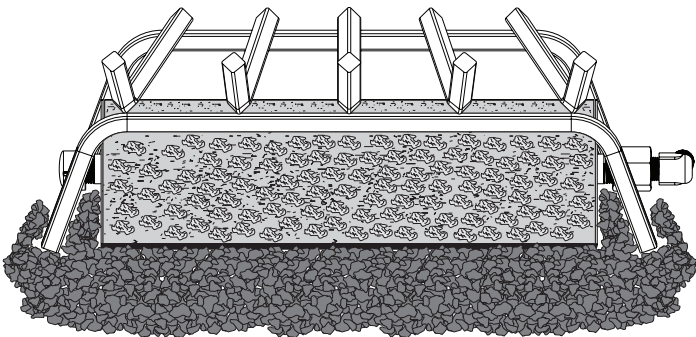

Figure 7
7. Place the Lava Rock (cinders) around the Grate/Burner Assembly. **See Figure 7.**